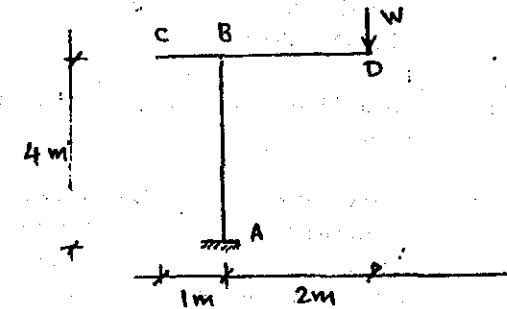

Fig.1
- A frame shown in Fig. 1 consists of a column AB fixed at A and having rigid connection at B with a double cantilever. EI is constant throughout. Calculate the vertical deflection at C and D.